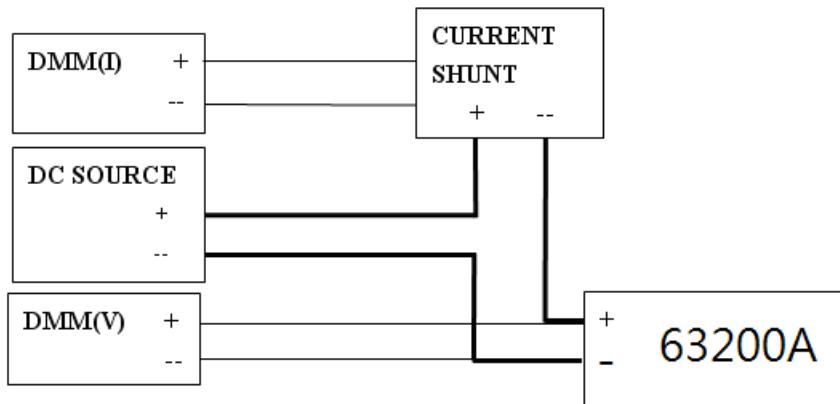

Figure 6-1
Connect the Load, DC Source, DMM and Current Shunt as shown in Figure 6-1. Use DMM (I) to measure the voltage that passes through the shunt resistor measurement port, and get the Load current.
- A. Connect the Load, DC Source, DMM and Current Shunt as shown in Figure 6-1. Use DMM (I) to measure the voltage that passes through the shunt resistor measurement port, and get the load current.
- D. Turn on the DC source and set output voltage to 5V. Set current limit of DC source larger than the set current in Table 6-2. Press to enable the load and wait for 30 seconds. Then record the shunt current and the front panel displayed readings. The current of load can be recorded from current shunt = DMM (I) voltage/current shunt resistor.